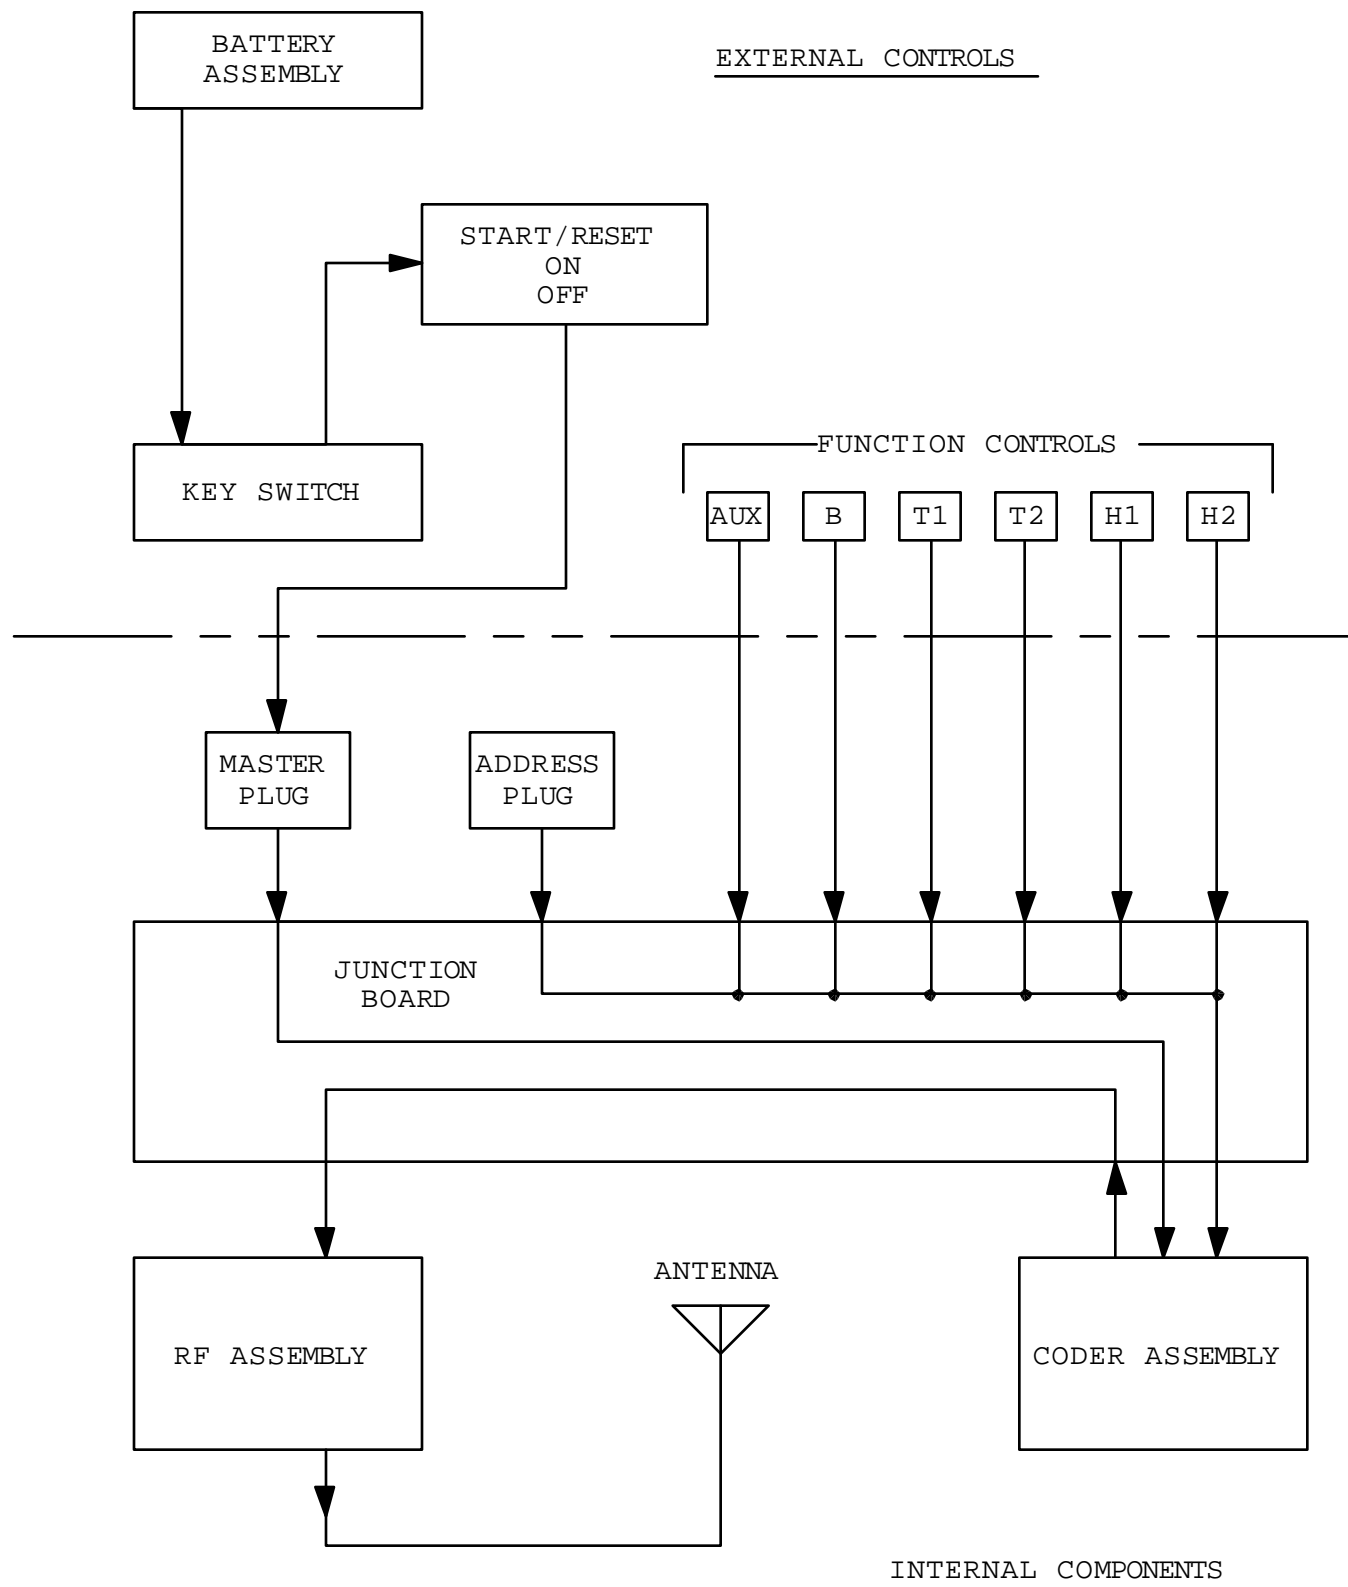

FIG. 3-1: BLOCK DIAGRAM, TRANSMITTER
The Transmitter is a battery operated frequency modulation radio transmitter. Incorporated with the transmitter is an antenna and disposable batteries.* Transmitter carrier frequency is crystal controlled. When the various switches are actuated, coded control signals are sent to the receiving equipment via the antenna. A block diagram of the transmitter is shown by Fig. 3-1.
5.2.2 Transmitter - (See Block Diagram, Transmitter, Fig. 3-1, and Transmitter Components Fig. 5-1).